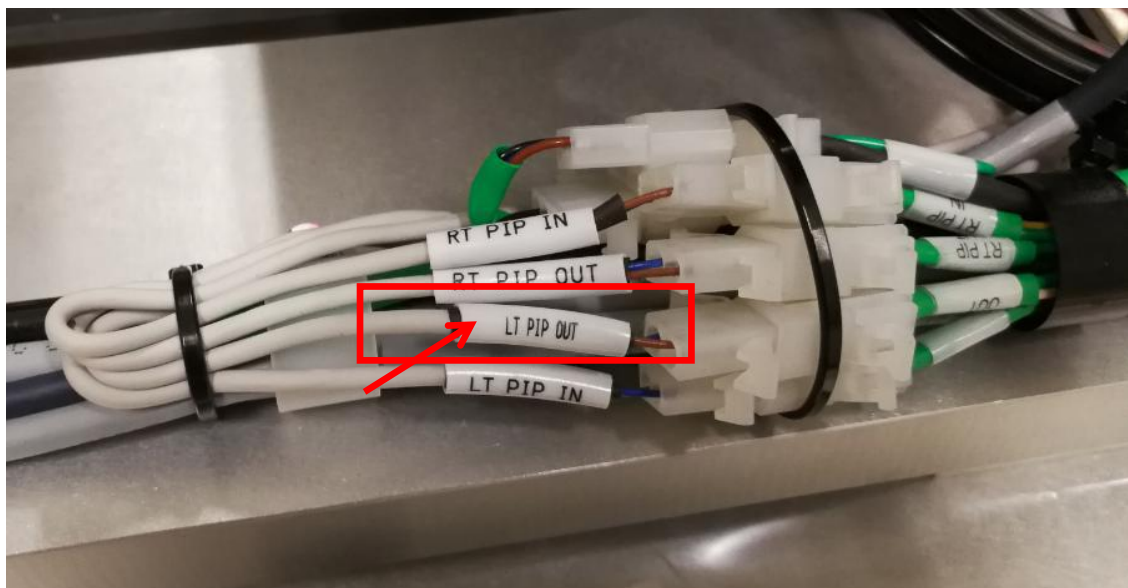

Figure 20 LT PIP Out Connector Assembly
2. Plug Left PIP Out Reed Sensor Cable Connector as shown in Figure 20 below.